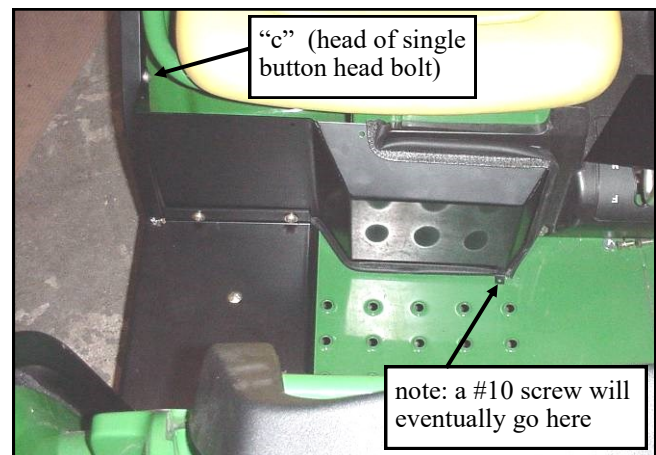

Fig. 9.1
9.1 Install the air intake cover as shown in fig. 9.1 so that the two bolt holes on the left line up with the two bolt holes in the rear bent lip of the floorboard. The air intake cover gets bolted behind the stock thickness of the floorboard. Use two button head bolts 5/16 x 3/4" long, four steel washers, and two locknuts. Bolt heads to be towards the front of the vehicle.
9.2 Connect the air intake cover to the passenger's side frame tube with one button head bolt 5/16 x 3/4" long and one steel washer. There is a factory installed threaded insert on the inside surface of the side frame tube in vicinity "c" in fig. 9.1. NOTE: do not install the #10 self-drilling/self-tapping screw in the floorboard of the vehicle until later on when all bolts have been tightened and there are no further adjustments to be made (ref.: step 22.1).